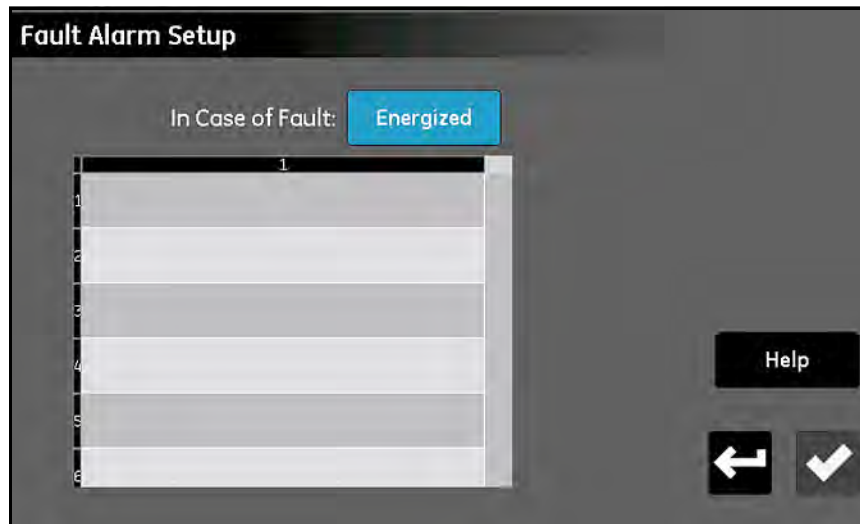

Figure 40: The Fault Alarm Setup Screen
The *Fault Alarm Setup* menu (see *Figure 40* below) allows you to specify how the moisture.IQ dedicated fault alarm relay responds to a fault condition and it lists the source of any current fault conditions.
- Tap the **In Case of Fault** button to toggle between the **Energized** and **DeEnergized** options. This selection determines whether the relay is **Energized** or **DeEnergized** (fail-safe operation) when a fault condition is detected. The source of a fault is displayed in the fault list in *Figure 40* above.